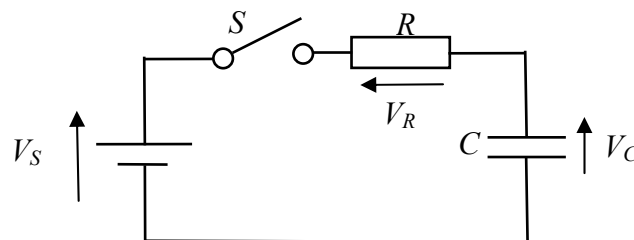

Figure 3.3
- c. Figure 3.3 shows a circuit consisting of a battery of voltage V_S , a switch S , a resistor R , and a capacitor C , connected in series. Initially the switch S is open and the capacitor is fully discharged. After the switch S is closed, show that the change in the voltage across the capacitor, V_C , with time is given by: